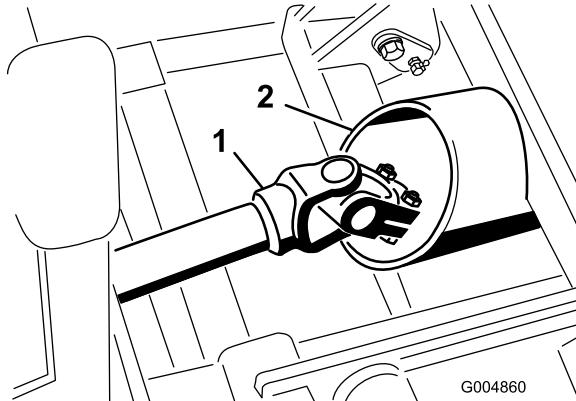

Figure 109
21. Carefully roll the winter frame assembly into position while routing the drive shaft through the frame tube (Figure 109).